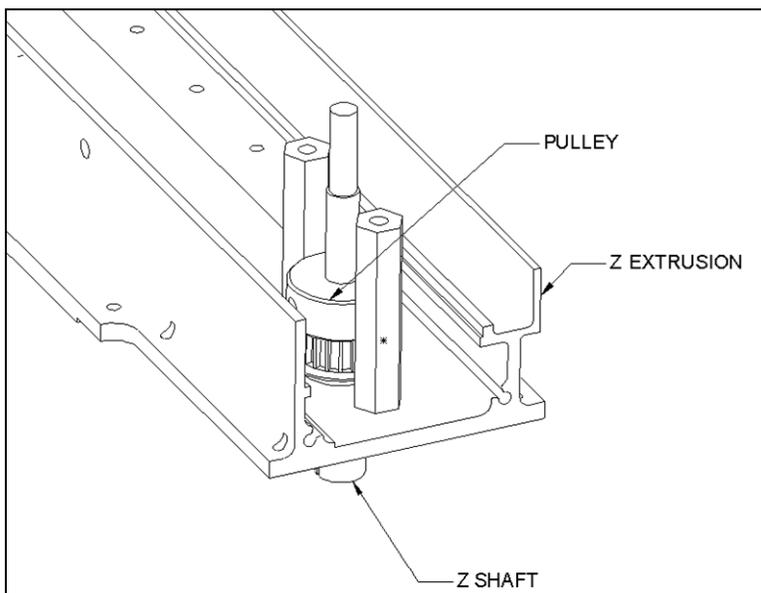

Figure 7-32 Pulley Assembly
- 2 Remove the pulley from the shaft by removing the M4 x 6 cone Point Set Screw (Figure 7-32).
Place the Pulley (Part No. 23001650) onto the Z shaft as shown in Figure 7-32. Push the pulley and the shaft together to take up all the slack. Secure the pulley to the shaft using one M4 x 6 Cone Point Set Screw (Part No. 307400406) and Loctite 222 (discard the supplied setscrew). Ensure that there is no play in the mechanism.